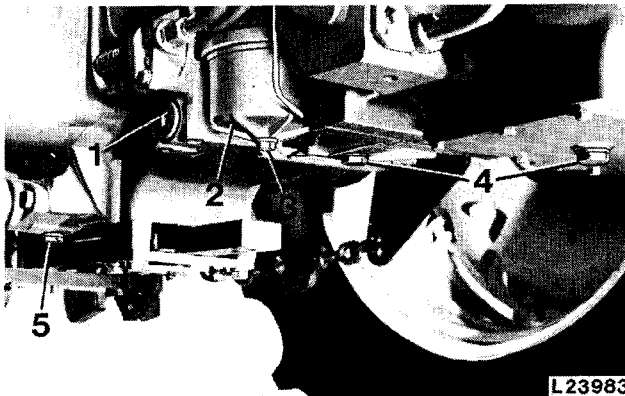

Fig. 9 – Transmission/Hydraulic Oil Filter
2. Remove retaining screw 3 (fig. 9) and lift out filter cover 2.